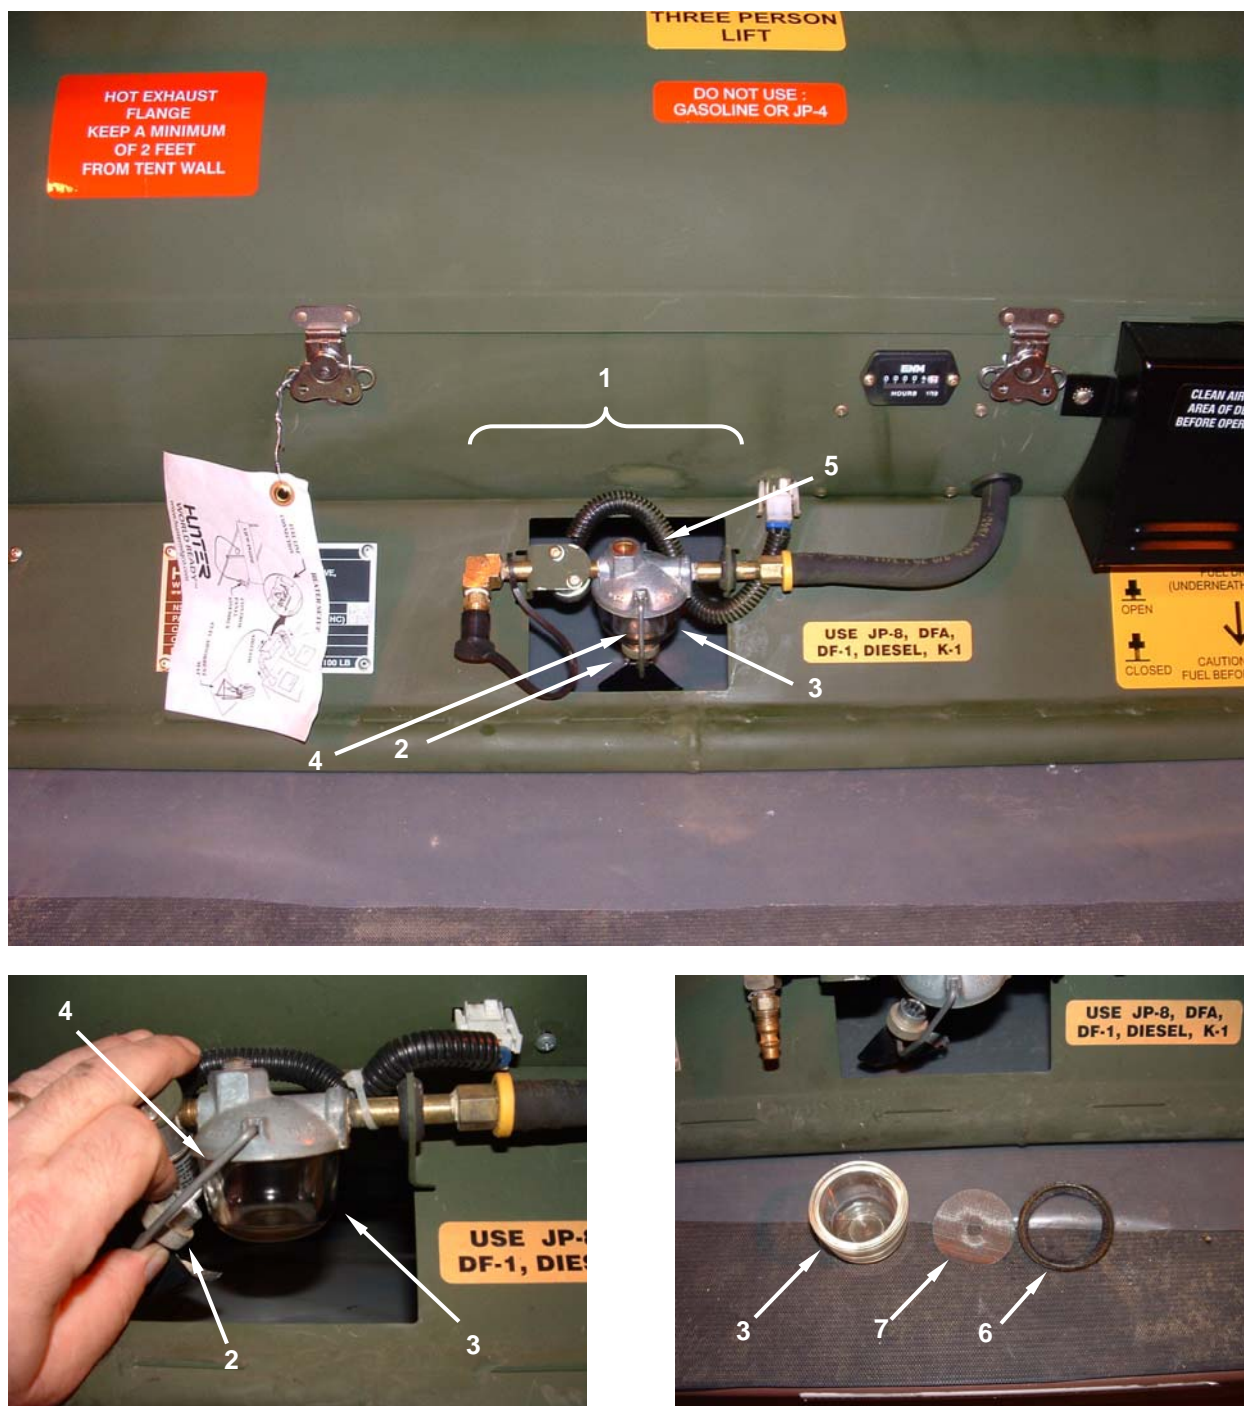

Figure 3. Replace the Sediment Strainer.
1. To replace the sediment strainer (**Figure 3, Item 1**), first place a petroleum absorbent mat under the heater in the area of the sediment strainer.
2. Loosen the knurled nut (**Figure 3, Item 2**) at the base of the sediment strainer bowl (**Figure 3, Item 3**).
3. Rotate the bale (**Figure 3, Item 4**) to the right and upward while supporting the bowl (**Figure 3, Item 3**).
4. Rock the bowl (**Figure 3, Item 3**) slightly and remove it from the sediment strainer top assembly (**Figure 3, Item 5**).
5. Empty the fuel from the bowl (**Figure 3, Item 3**) into an approved container and discard. Do not empty the fuel into a fresh fuel supply.
6. Remove the gasket (**Figure 3, Item 6**) and screen (**Figure 3, Item 7**) from the sediment strainer top assembly (**Figure 3, Item 5**) and discard in an approved manner.
7. Install a new gasket (**Figure 3, Item 6**) and screen (**Figure 3, Item 7**) in position on the sediment strainer top assembly (**Figure 3, Item 5**).
8. Replace the bowl (**Figure 3, Item 3**) under the sediment strainer top assembly (**Figure 3, Item 5**).
9. Rotate the bale (**Figure 3, Item 4**) downward and center under the bowl (**Figure 3, Item 3**).
10. Tighten knurled nut (**Figure 3, Item 2**) at base of sediment strainer bowl (**Figure 3, Item 3**).